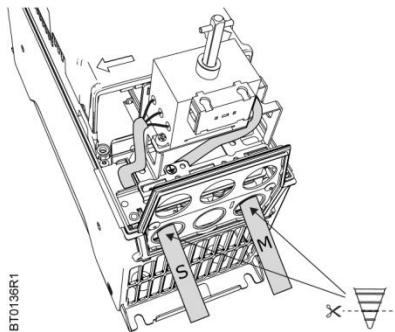

Figure 5.
5. Install supply cable **S** and connect it to the main switch (see Figure 5).